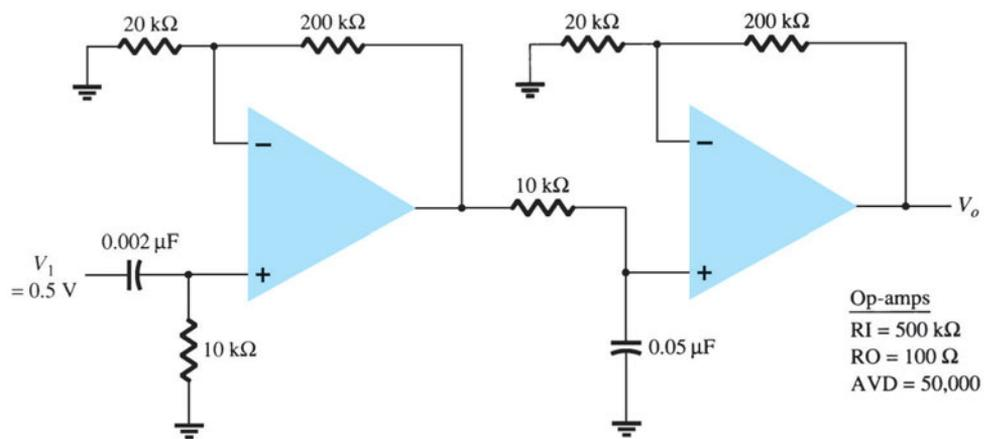

FIG. 11.64
*22. Use Design Center to plot the response of the bandpass filter circuit in Fig. 11.64.